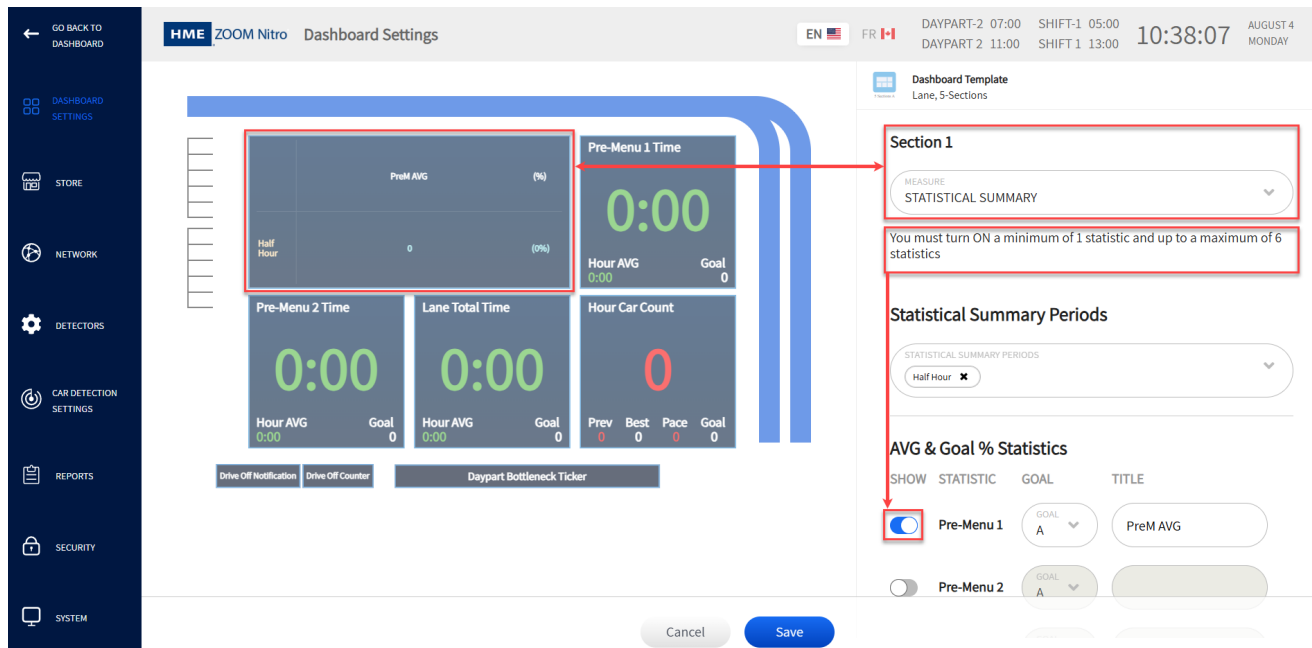

Fig. 3.5
Some **Dashboard Template** layouts have a small asterisk next to them, as shown in Fig. 3.5. This indicates that these layouts support a Statistical Summary section (the six-section layout in Fig. 3.4 does not).
The Data Section must be large enough to display Statistical Summary data. Therefore, only the large rectangular section (Section 1) in Fig. 3.5 can accommodate a Statistical Summary.
4. Once a selection is made from the **Statistical Summary Periods** field, the Statistics option appears beneath this field. This set of options includes: **AVG & Goal % Statistics**, **Disastrous Orders Statistics**, and **Car Count Statistics** (scroll down to view). You must then enable at least one statistic from the list for the Data Section (Section 1 in this example) to populate (see Fig. 3.5). Up to six statistical options can be selected.